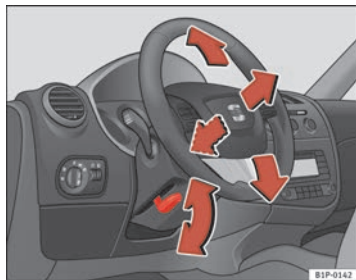

Fig. 114 Adjusting the steering wheel position
- Push the lever under the steering column \Rightarrow fig. 114 down \Rightarrow .